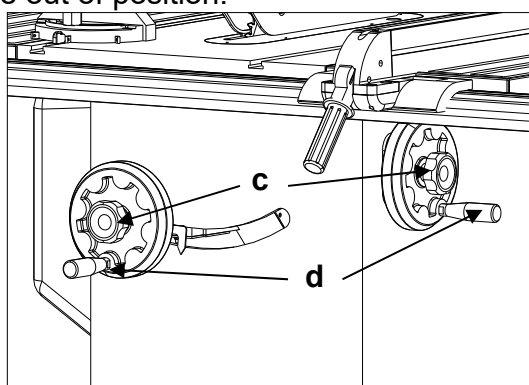

Fig. 4
2. Screw on lock knobs c(Fig.4), to hold wheels in place, then attach silver handles, d(Fig.4) tightening them with the supplied 12mm combination wrench.